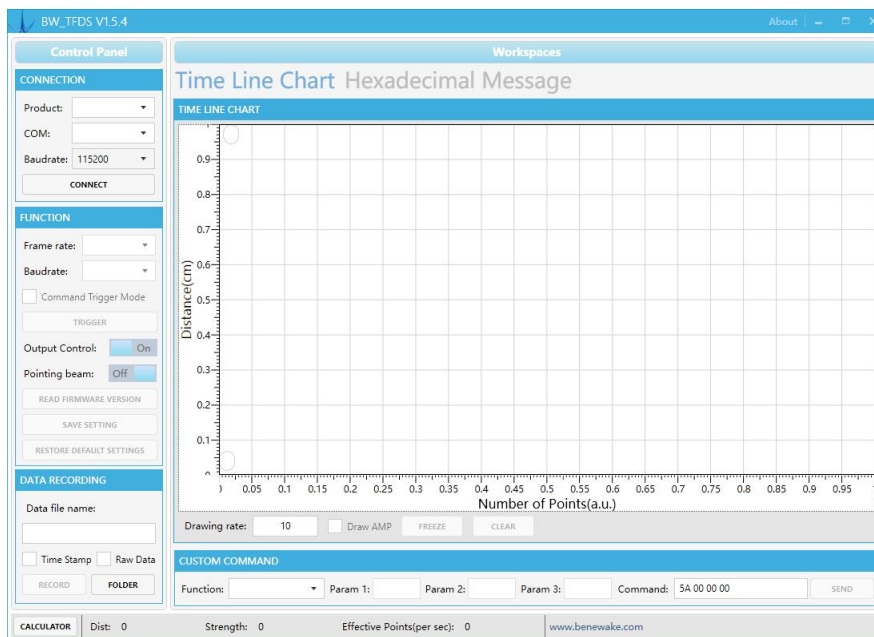

Figure 14 Benewake testing GUI for TF series
- See *Figure 14 Benewake testing GUI for TF series* for of the GUI.